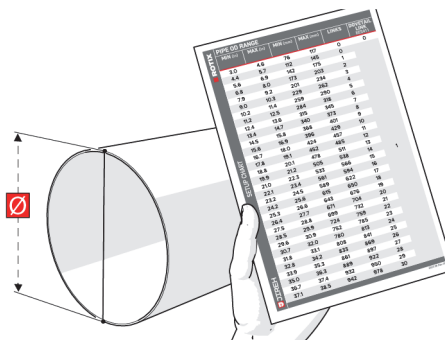

Figure 3-1 Refer to setup chart
1. Determine the diameter of the pipe or tube to be scanned. Consult the setup chart indicating the number of links required based on the pipe or tubing diameter (see Figure 3-1 on page 81).